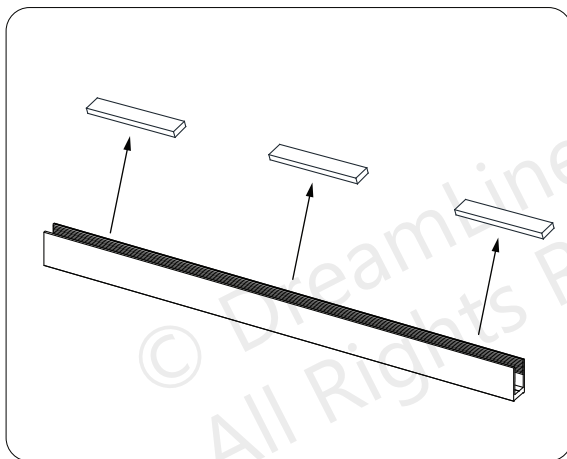

Fig 5b
5. Remove the Panel Glass and the PVC Glass Spacers from the Bottom U-Channel (#29). (Fig 5a and Fig 5b)